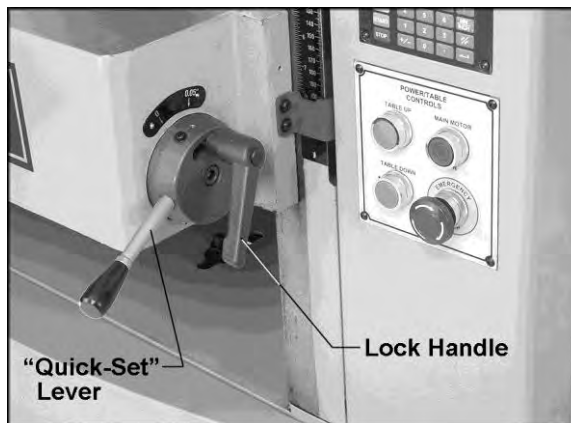

Figure 12
The planer is equipped with a quick-set table roller adjustment. With a single lever, you can raise the rollers from their finishing board height to a roughing board height. See Figure 12. The range is 0.00 to 0.05”.
To adjust the height of the table rollers, loosen the lock handle (Figure 12) and turn the quick-set lever. Re-tighten the lock handle to lock the setting.
2. Loosen lock handle and position the quick-set lever (Figure 12) to zero.